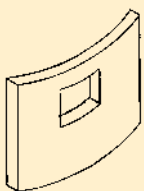

Fig. 13 Curved
- Provide curved surfaces (Fig. 13)